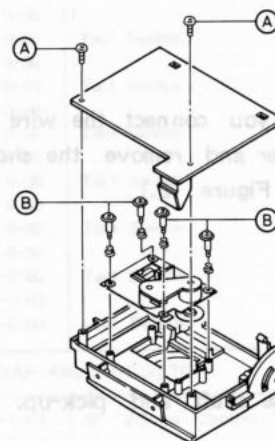

Figure 8
2. Remove two screws (A) holding the CD PCB. (See Figure 8.)
3. Remove four screws (B) holding the CD mechanism. (See Figure 8.)